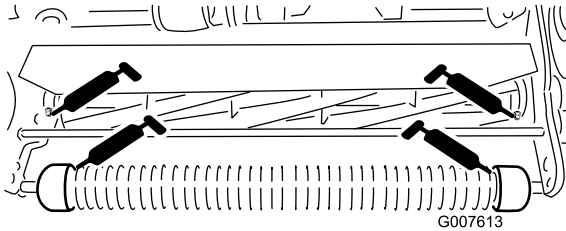

Figure 18
- 2 on the front roller (Figure 18)
- 2 on the reel bearings (Figure 18)